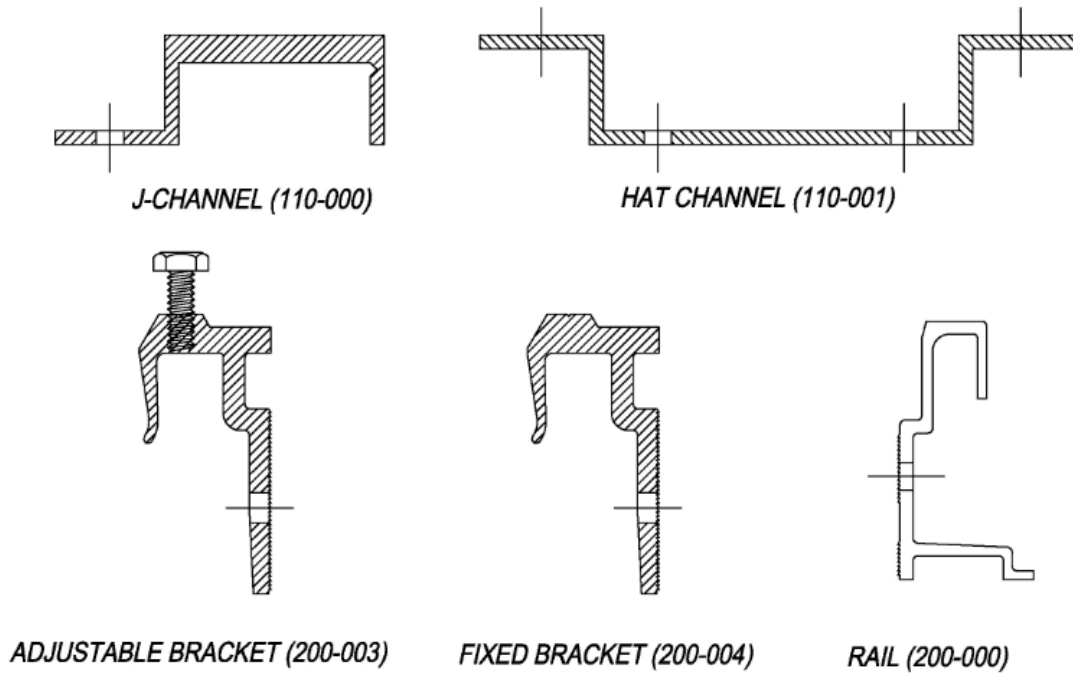
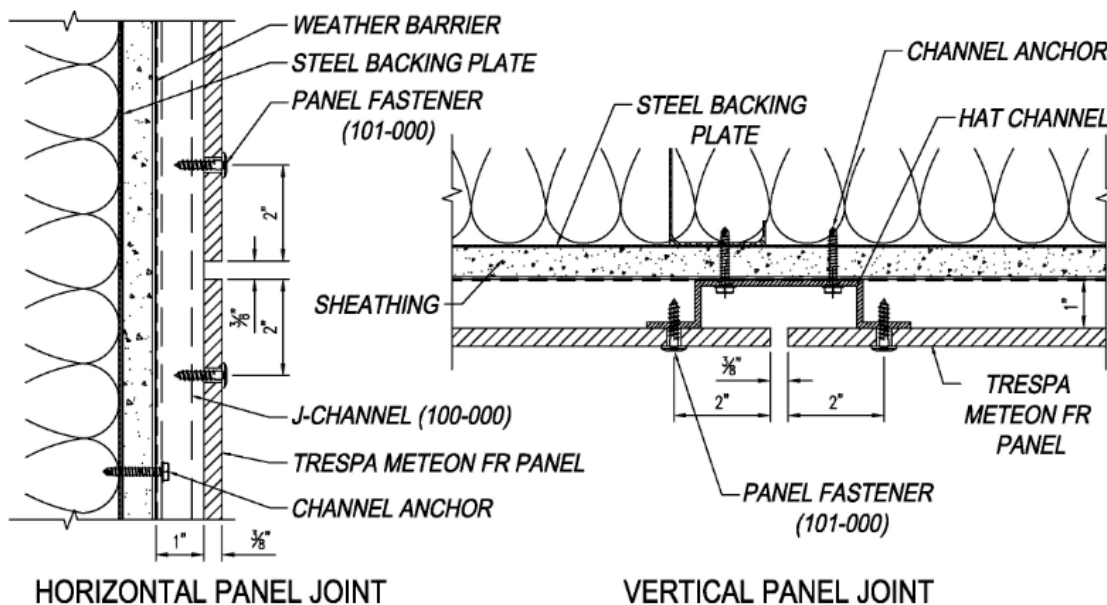
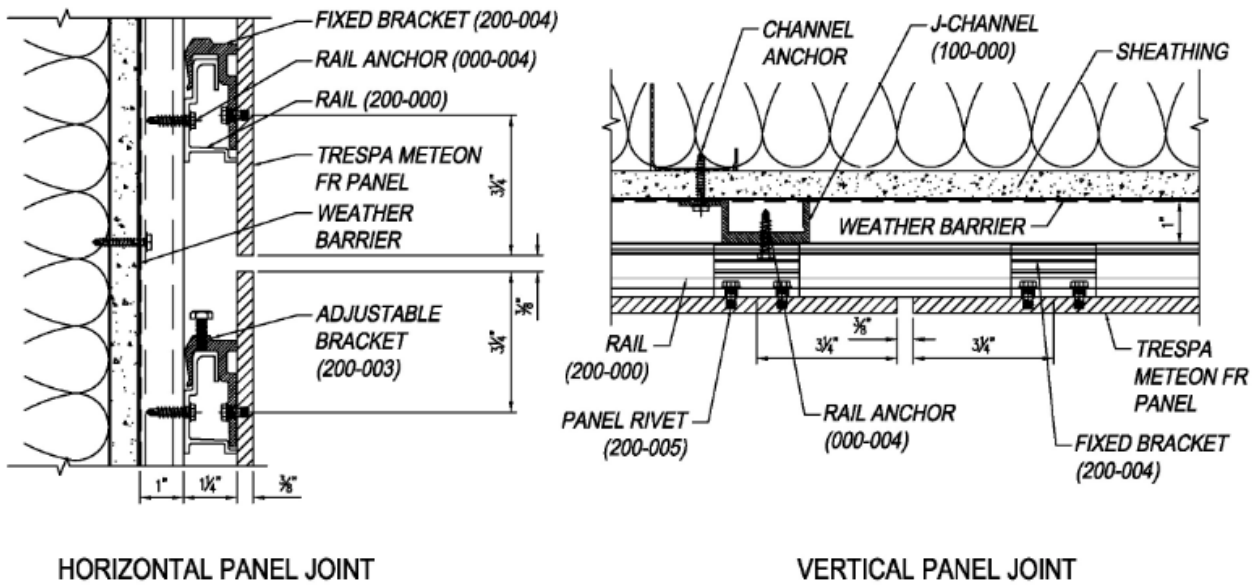

FIGURE 1 - STANDARD SYSTEMS COMPONENTS
FIGURE 2 - TS110 EXPOSED FASTENER SYSTEM
FIGURE 3 - TS210 CONCEALED FASTENER SYSTEM
The Trespa Meteon FR Wall Panel Cladding System is an open-jointed wall covering system that allows air to circulate between the panels and the exterior face of the installed water-resistive barrier or mineral wool insulation. The panels are mounted with visible or concealed fasteners, on extruded aluminum substructure systems composed of tracks and mounting brackets. When used as an exterior wall covering, the system must be installed over a water-resistive barrier. See Figures 1–4 for system details.
panels are connected to the substructure with exposed fasteners (TS110 system) or concealed brackets and fasteners (TS210 system). The TS210 system bracket is manufactured from 6063 T5 aluminum. See Figure 1 for bracket and rail profiles. The exposed fastening system is for use with all three panel thicknesses; the concealed fastening system is for use with the $\frac{3}{8}$ -inch-thick and $\frac{1}{2}$ -inch-thick panels only. The hat channel weighs 1.1 lbs/ft (1.6 kg/m) and the J-channel and rail extrusions each weigh 1.0 lb/ft (1.5 kg/m).
4.3.2 TS110 Exposed Fastener System: Trespa's TS110 exposed fastener system (see Figure 2) for use with $\frac{5}{16}$ -inch, $\frac{3}{8}$ -inch and $\frac{1}{2}$ -inch (8 mm, 10 mm and 13 mm) panels utilizes two aluminum substructure components: a J-channel and a hat channel (see Figure 1). The J-channel has an overall width of 3 inches (76 mm) and a total depth of 1 inch (25 mm). The hat channel has an overall width of $5\frac{3}{4}$ inches (146 mm) and a total depth of 1 inch (25 mm). The J-channels and hat channels are installed vertically and connected to the underlying structure of the building. The spacing of the channels and their attachment to the substrate must be in accordance with the project-specific structural calculations provided by the building designer. The substructure channel anchorage to attach the channels to the building must be of stainless steel.
4.3.3 TS210 Concealed Fastener System: Trespa's TS210 concealed fastener system (see Figure 3), for use with $\frac{3}{8}$ -inch and $\frac{1}{2}$ -inch (10 mm and 13 mm) panels, utilizes three extruded aluminum substructure components: a J-channel, a rail extrusion and a panel bracket (see Figure 1). The rail extrusion has an overall depth of $1\frac{1}{4}$ inches (32 mm) and a total width of $2\frac{3}{8}$ inches (60 mm). The panel bracket has an overall width of $1\frac{3}{16}$ inches (30 mm) and total height of $2\frac{7}{16}$ inches (62 mm). The J-channels are installed vertically and connected to the underlying structure of the building. The substructure channel anchorage to attach the channels to the building must be of stainless steel; the spacing must be in accordance with the project-specific structural calculations provided by the building designer.